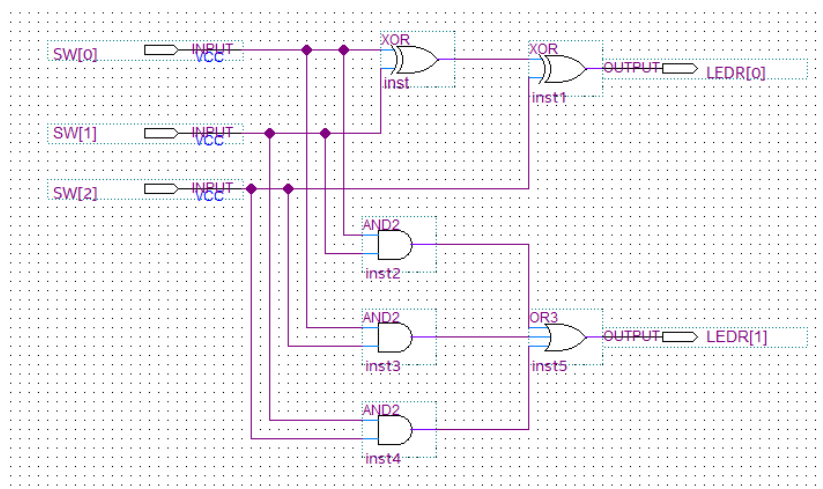

Figure 3. Schematic of a Full Adder.
- As Figure 3 shows, connect the inputs and outputs of the gates together. Connection can be made by selecting the Orthogonal Node Tool from the menu bar. Click, hold, and drag from one of the endpoints to the other end point to make a connection. **Tip:** Moving the mouse pointer over the tool icons will display their respective names. The Orthogonal Node Tool icon looks like this: .
- As shown in Figure 3, name the input components as SW[0], SW[1], SW[2], and name the output components as LEDR[0] and LEDR[1]. You can double-click on the pin to bring up the Pin Properties dialog box or just click on the pin name, right-click and select Properties.
At this point, your schematic should look like the one shown below in Figure 3.
- There are several ways to make pin assignments. One way is to select **Assignments > Assignment Editor** and manually enter the pin assignment for each input and output node. An easier way is to use the DE10-Lite System Builder tool to generate a .qsf file containing the pin assignments. However, to use System Builder to create pin assignments, you must name the input and output nodes using the default names used by System Builder. (These are the names used in Figure 3). These names are specified in the DE10-Lite User's Manual as well as in the System Builder output files.
For this section, reuse the full adder from Part I, Figure 3. Since we specified ModelSim-Altera as the simulation tool when we created the project, the project should be configured to run ModelSim-Altera.